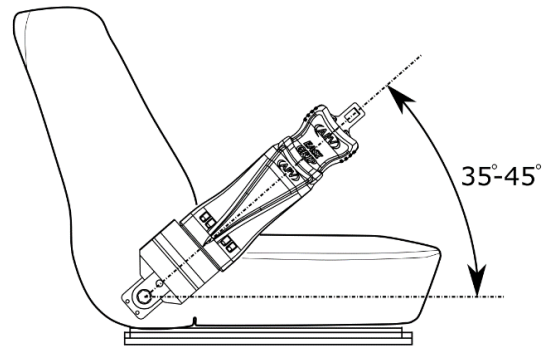

Figure 2: Recommended Installation Angle
3. Adjust the arm to the desired angle (refer to Figure 2).